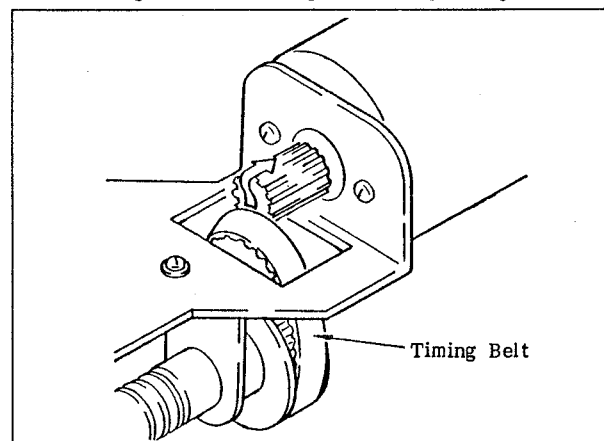

Fig. 6-38 Attaching the Timing Belt
9. Set the timing belt on the larger pulley first, and then set it on the smaller pulley, as shown in Figure 6-38.